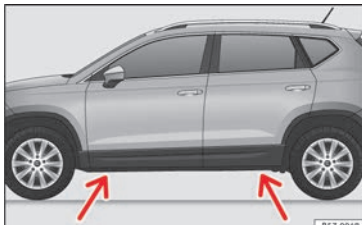

Fig. 75 Crossbar: marks.
- Find the support point on the strut (sunken area) closest to the wheel to be changed » » Fig. 75.